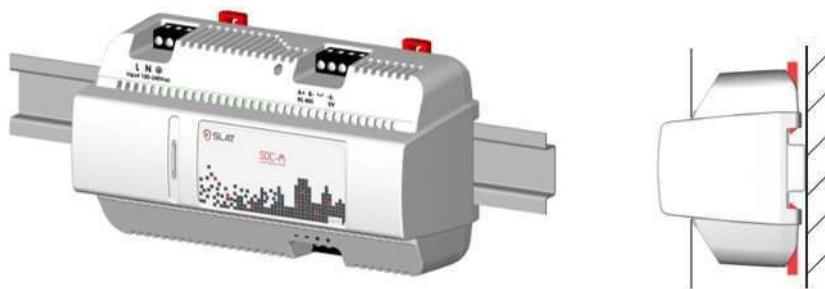

Figure 6.1: Position on DIN rail
- d. The product should hold itself. Figure 6.1 shows how the box must be positioned on the DIN rail once assembled.